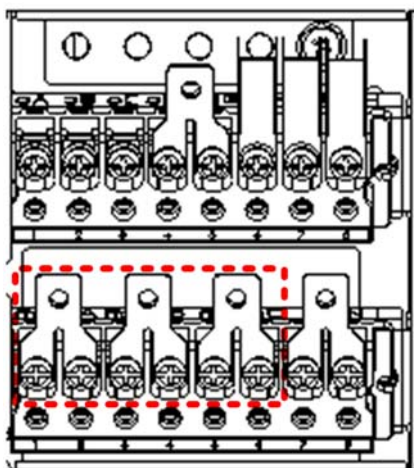

Figure 8-12 3-in 1-out, split bypass configuration (1)
a) Remove the three copper shorting bars from the rectifier input terminals mA, mB and mC, see Figure 8-12.